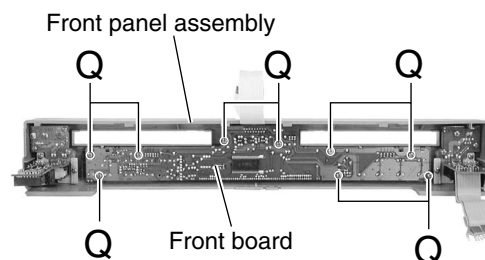

Fig.25
■ Removing the front board (See Fig.25)